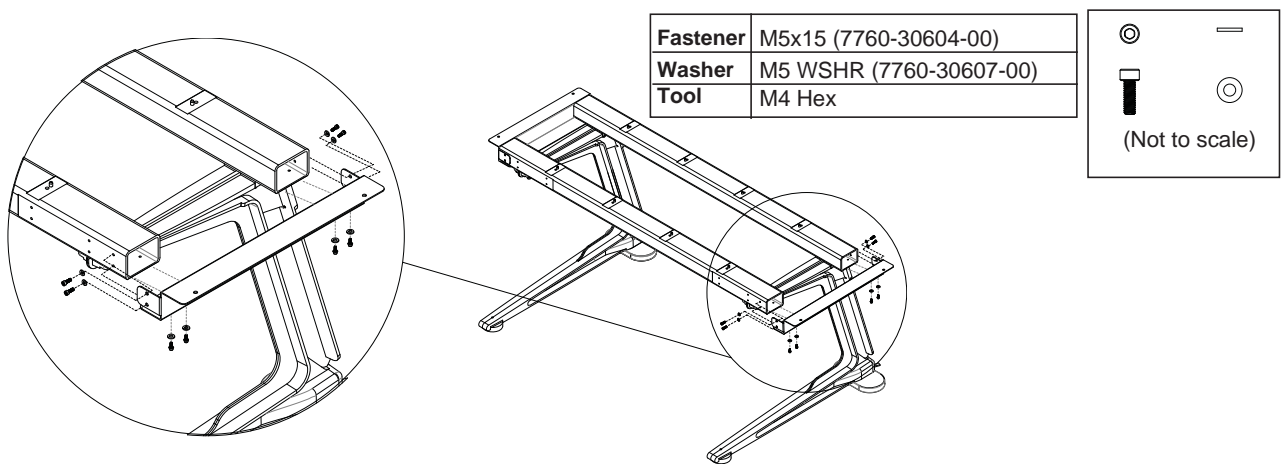

Figure 19. Removing the right side End Bracket (left side End Bracket shown attached)
- Remove the eight fasteners and washers per bracket that attach the Left and Right End Brackets to the Legs (see Figure 19).